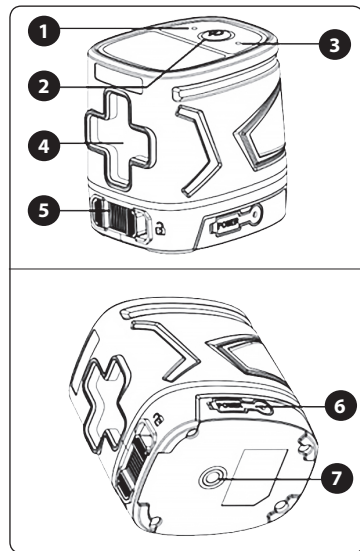

Fig. 6, position-description
- To charge the device, use a 5 V DC USB power supply connected via a USB cable with a USB-C connector. The green indicator light (fig. 6, position 3) flashes during the charging process and is lit when the battery is charged.
2. When using the levelling automatics, it is sufficient to set the toggle switch (fig. 6, position 5) to the unlocked padlock position, which projects the laser line.
2. Check that the toggle switch (fig. 6, position 5) is set to the locked padlock position.
3. Press the On/Off button (fig. 6, position 2). The laser lines will regularly flash at interval of several seconds.
- Turn on the device to the use levelling automatics mode as described above and then press and hold down button (fig. 6, position 2) so that the red indicator light (fig. 6, position 1) turns on. It is not possible to activate the pulse mode without levelling automatics.
- To deactivate the pulse mode, hold down button (fig. 6, position 2) so that the red indicator light turns off.
- To turn off the device, first set the toggle switch to the closed padlock position and if the green indicator light (fig. 6, position 3) is lit with the lines turned off, then press the power switch (fig. 6, position 2). If the toggle switch is set to the open padlock position (operating mode for levelling automatics device setting, it will not be possible to turn off the device by simply pressing the power switch because it is necessary to first block/lock the plumb line in order to protect the device against damage during handling - when the lines are turned off the green indicator light (fig. 6, position 3) will be lit and possibly the red indicator light (fig. 6, position 1) if the pulse mode was activated.
- Never carry the device unless the toggle switch (fig. 6, position 5) is set to the locked padlock position (i.e. the plumb line must be locked), otherwise the levelling mechanics could be damaged or eyes of people or animals could be hit by the laser beam.